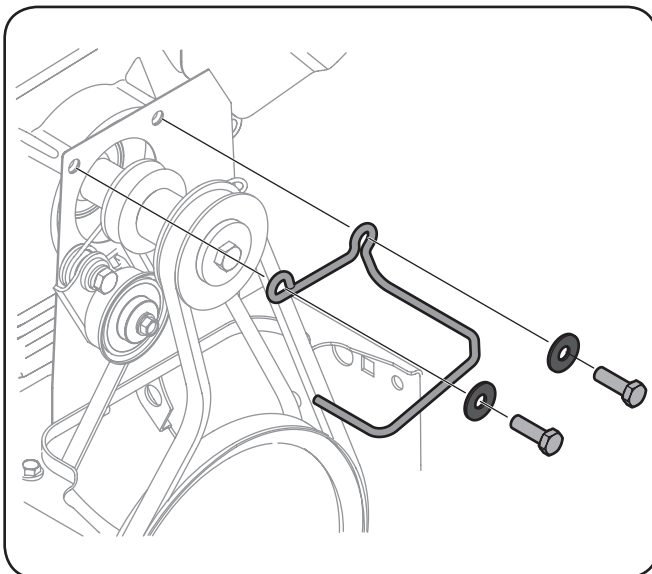

Fig. 7-2
3. Loosen and remove the two bolts and flat washers securing the belt guide. See Figure 7-2. Remove belt guide.